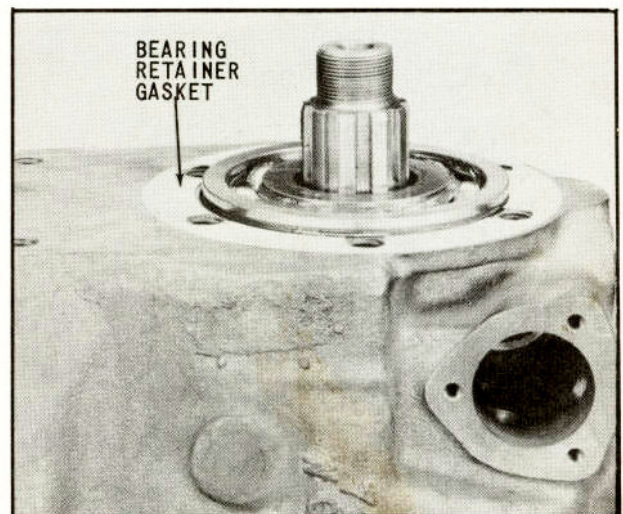

Fig. 25 Bearing Retainer Gasket in Place
13. Place bearing retainer gasket on rear of transmission case as shown in (Fig. 25). Gasket may be coated with petroleum jelly for easier assembly.